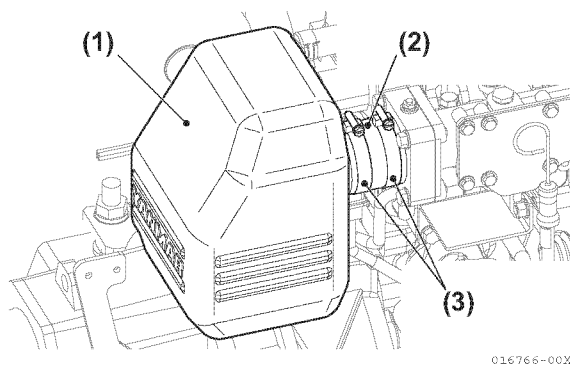

Figure 5-196
65. Secure the silencer to the suction manifold with rubber pipe and horse band (**Figure 5-196**).